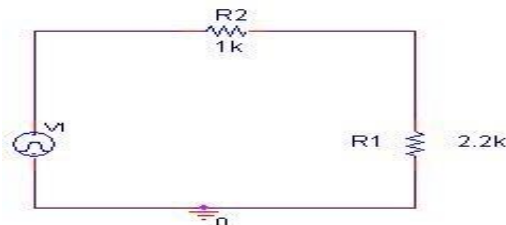

Figure A1
- Draw the circuit as shown in Figure A1.